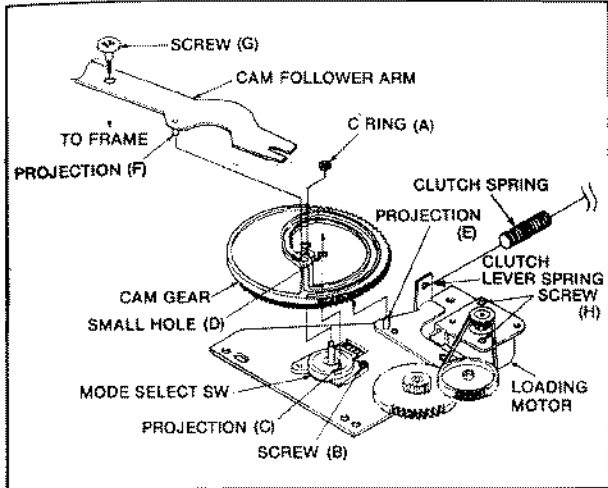

Fig. R7
2. Install the Cam Gear with the half slot side showing so that Small Hole (D) on the Cam Gear meets Projection (C) on the Mode Select SW as shown in Fig. R7. Then install the C-Ring (A) to mount Cam Gear.
3. Turn the Cam Gear fully to clockwise. Then install the Cam Follower Arm so that the projection (F) meets the inner slot of Cam. Also install Screw (G) so as to mount the Frame.